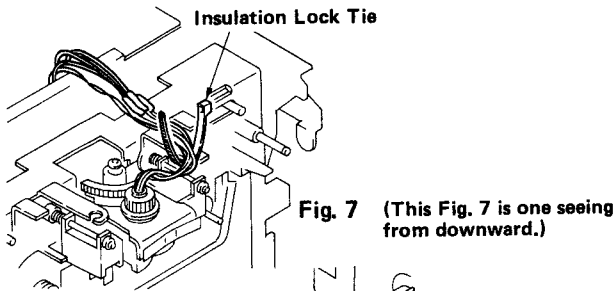

Fig. 7 (This Fig. 7 is one seeing from downward.)
- a. Remove Insulator Lock Tie which locks lead wire between lead wire of head and sensor unit. (Fig. 7)